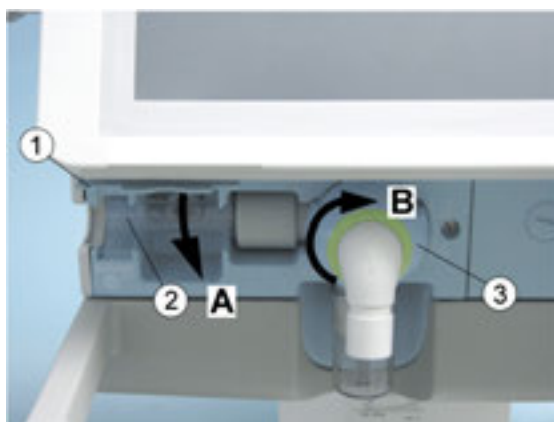

Fig. 95 Detail view of Savina 300: fitting the expiratory valve
- 2 Push the expiratory valve into the mount on the Savina 300 until you feel a resistance and turn the locking ring (Fig. 95/3) of the expiratory valve all the way to the right towards **B** until you feel it lock in place.
- 4 Slide the flow sensor (Fig. 95/2) to the right into the flow sensor sleeve.
- 5 Swivel the flow sensor flap (Fig. 95/1) down towards **A**.